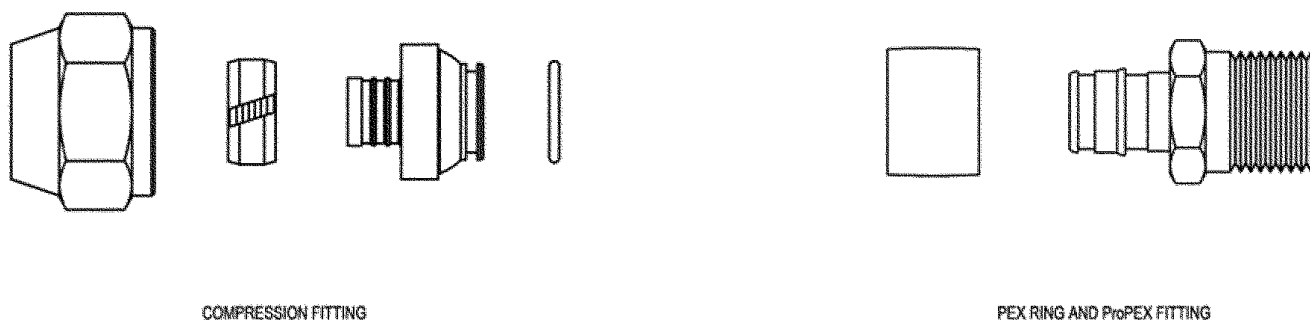

FIGURE 1—UPONOR FITTINGS
**Fittings:** Two types of fittings are recognized: ProPEX® EP (Engineered Polymer) or ProPEX® Brass fittings and brass compression-type fittings. The fittings are illustrated in Figure 1.